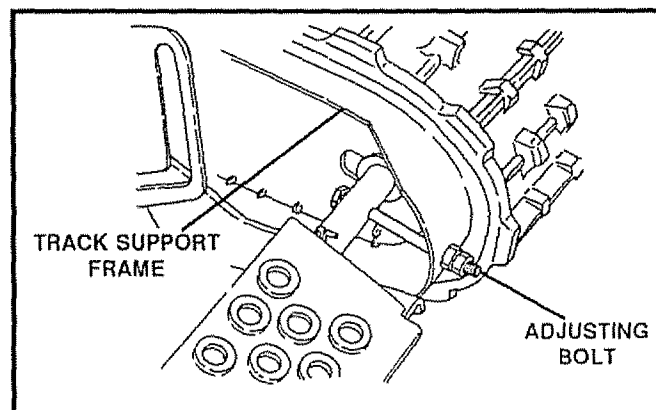

FIG. 36
- Loosen or tighten the adjusting bolt at the rear of the track support frame (See Fig. 36) to obtain the proper distance between the track and the track support frame.